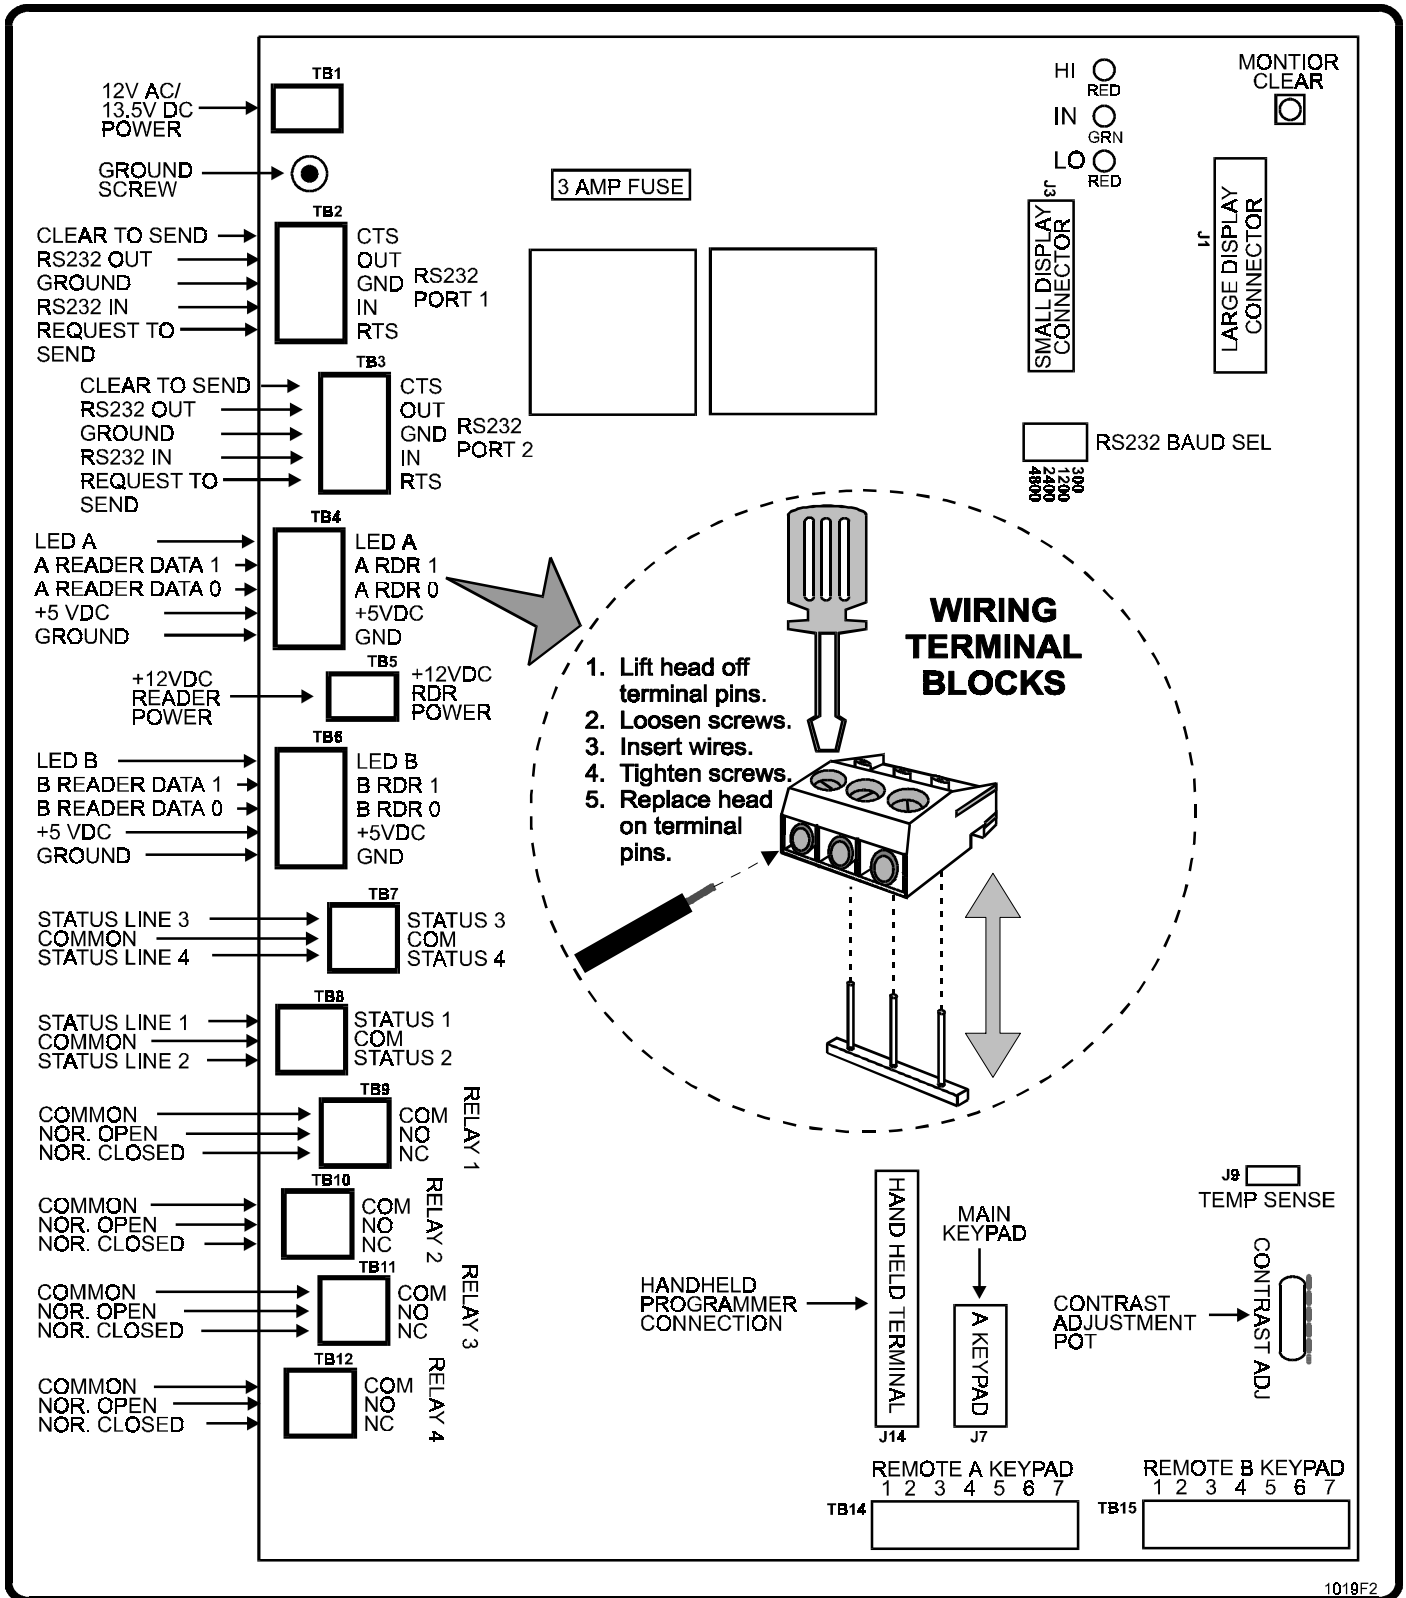

Figure 3. Infinity Circuit Board Connections (1100023).
- 1. GROUND THE UNIT.** The Infinity contains parts which may be damaged by static discharge. A proper earth ground connected to the upper left grounding screw shown in **Figures 3 and 4** will significantly reduce the chances of damage or improper operation. The shielding in the cables for all remote keypads or card readers should be connected to the earth ground at the controller end of the cable only. To be effective, the ground connection must be made by running 12 awg copper wire to a good ground point (e.g., an electrical panel, a metallic cold water pipe that runs into the earth, or a grounding rod at least 10 feet in length that is driven into the earth) within 12 feet of the unit. Even if you have a good earth ground, you should try to discharge any static before handling the circuit boards.
Refer to Figure 3 or 4 and connect the wires from Infinity-controlled devices as follows:
AC POWER: Connect one end of a two conductor stranded wire cable to TB 1 on the main processor board (see Figure 3 or 4) and the other end to the transformer provided with the system. Then plug the transformer into a 120 VAC outlet. Follow the same steps for optional CCTV.
DC POWER: Connect one end of a two conductor stranded wire cable to TB 1 on the main processor board (see Figure 3 or 4) and the other end to the power supply. Then plug the power supply into a 120 VAC outlet. Follow the same steps for optional CCTV.
1. Press the button next to the LEDs marked "monitor clear" on the upper-right corner of the board (Figure 3 or 4).
- Use shielded cable and connect the shield to the ground screw shown in Figures 3 and 4.
- If the door is located more than 25 feet from the Infinity, use shielded cable and connect the shield to the ground screw shown in Figure 3 or 4.
Change the baud rate by moving the jumper on the RS232 BAUD SEL shorting block (Figure 3 or 4).